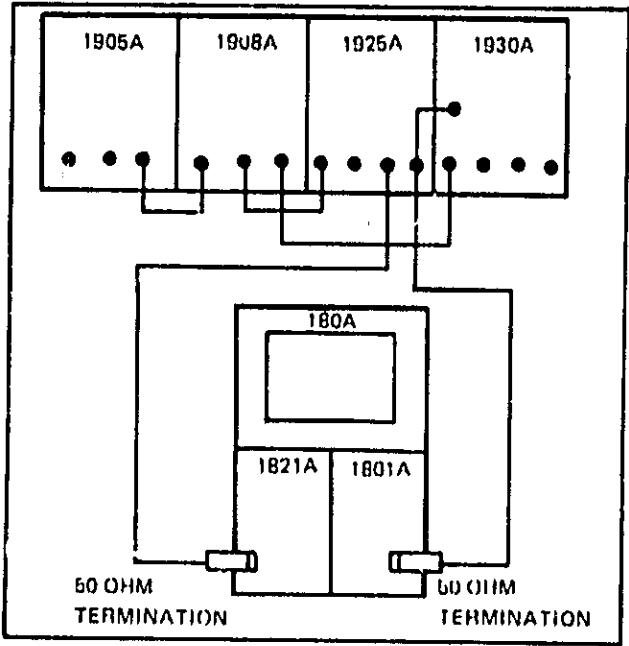

Figure 5-5. PRBS Test Setup
a. Connect the equipment and accessories as shown in Figure 5-5.